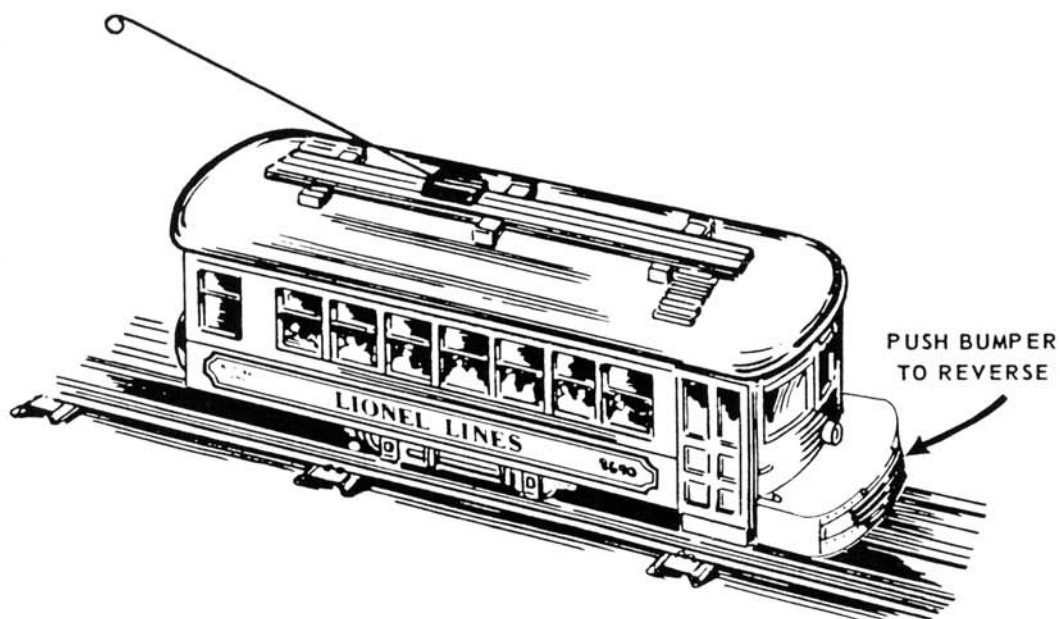

Figure 1 - Lionel Trolley
The armature bearing can be lubricated as follows: 1 Take off the locomotive cab by removing the cab screw (figure 1). 2 Apply a small amount of Lionel grease down the hole.
Remove (1) cab screw from cab (figure 1). Lift off cab exposing headlamp assembly. Grasp bulb, and pull out. Replace with Lionel part number 8352-310. Replace cab and cab screw.